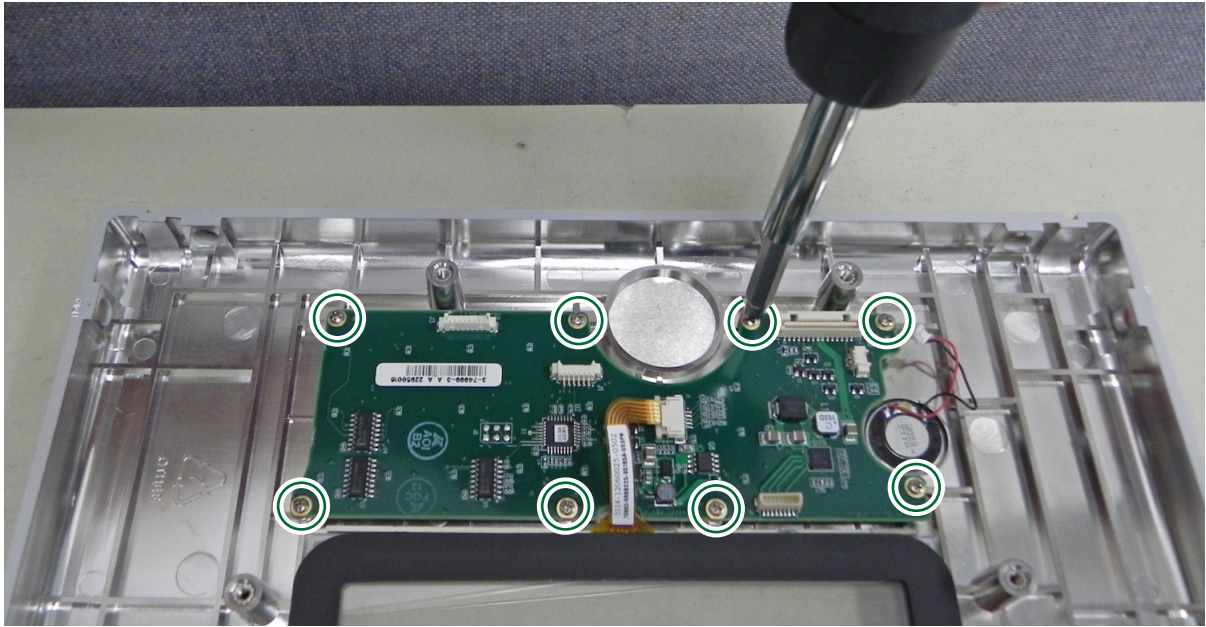

Figure 5-28. Remove Keypad PCB Screws
7. Carefully disconnect the speaker connector and remove the 8 screws holding the keypad PCB to the front panel assembly (Figure 5-28).